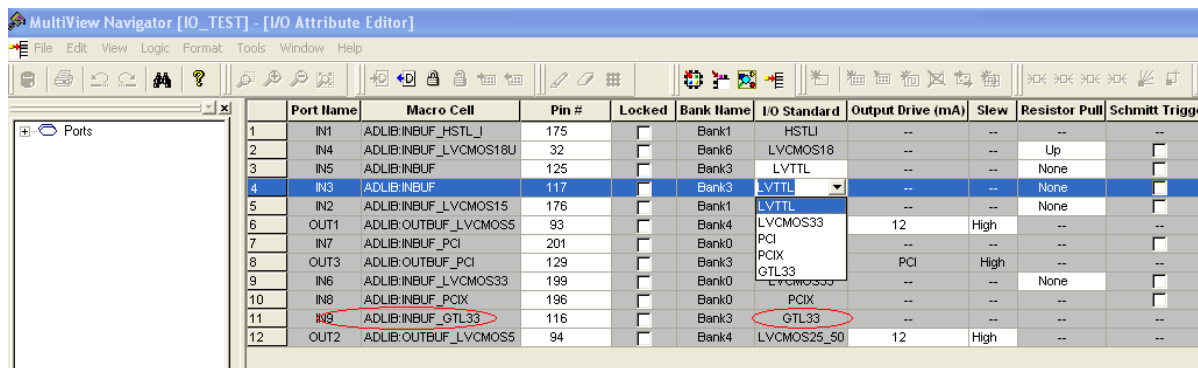

Figure 13-7 • Assigning a Different I/O Standard to the Generic I/O Macro
- Users will need to use the I/O Attribute Editor in Designer to change the default I/O standard if needed (see Figure 13-7 on page 13-9).
- The I/O standard of technology-specific I/O macros cannot be changed in the I/O Attribute Editor (see Figure 13-7).